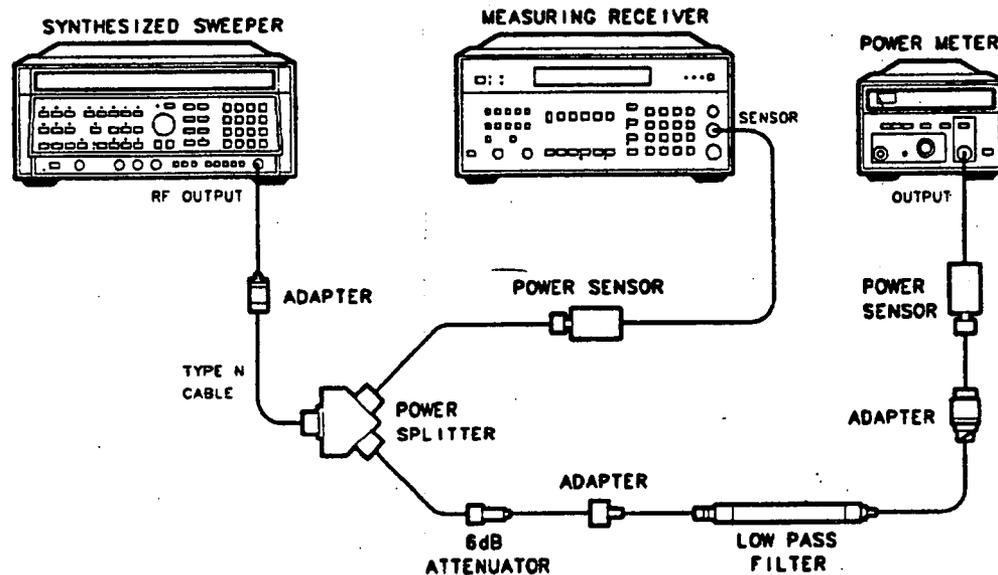

Figure 2-21. LPF Characterization
16. Connect the equipment as shown in Figure 2-21. Connect the HP 8484A directly to the Power Splitter (bypass the LPF, Attenuator and Adapters).
20. Connect the LPF, Attenuator and adapters as shown in Figure 2-21.